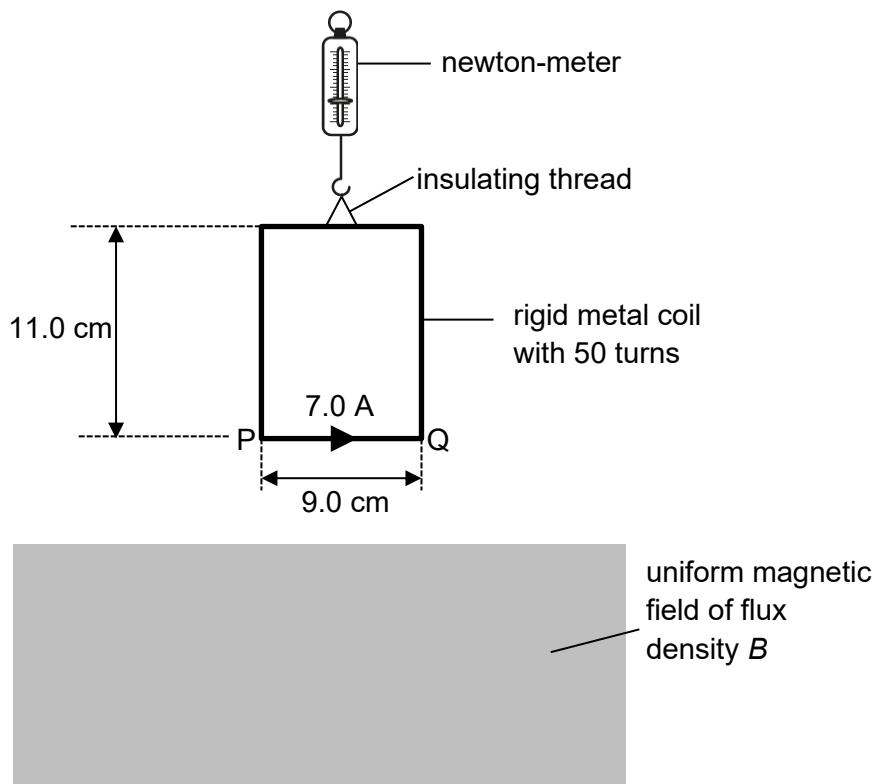

Fig. 8.3
- (c) A rigid metal coil with 50 turns measuring 11.0 cm by 9.0 cm is suspended from a sensitive newton-meter, as shown in Fig. 8.3. The metal coil is initially above a region of uniform magnetic field of flux density B .
The coil is connected to a power supply so that there is a current of 7.0 A in the direction indicated in Fig. 8.3.